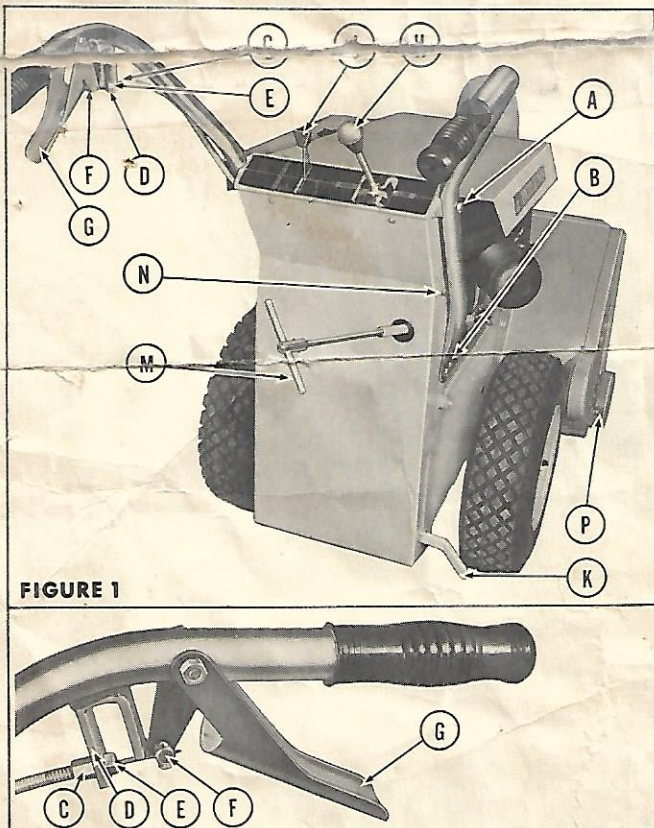

FIGURE 1
Feed clutch control cable through cable housing adapter (C) and turn adapter onto cable housing hand tight. Lead clutch cable and threaded end of adapter through hole in cable guide (D) on left hand handle, install 1/4-20 hex nut (E) and lock tight. Thread control wire into swivel clamp (F) and tighten securely. NOTE: Position control wire in the swivel block so that drive belt (E-Fig. 2) is completely disengaged when clutch lever (G-Fig. 1 insert) is squeezed against the handle grip. This occurs when there is a clearance of approximately 1/8" between the idler pulley and rim of driven pulley (see Fig. 2).